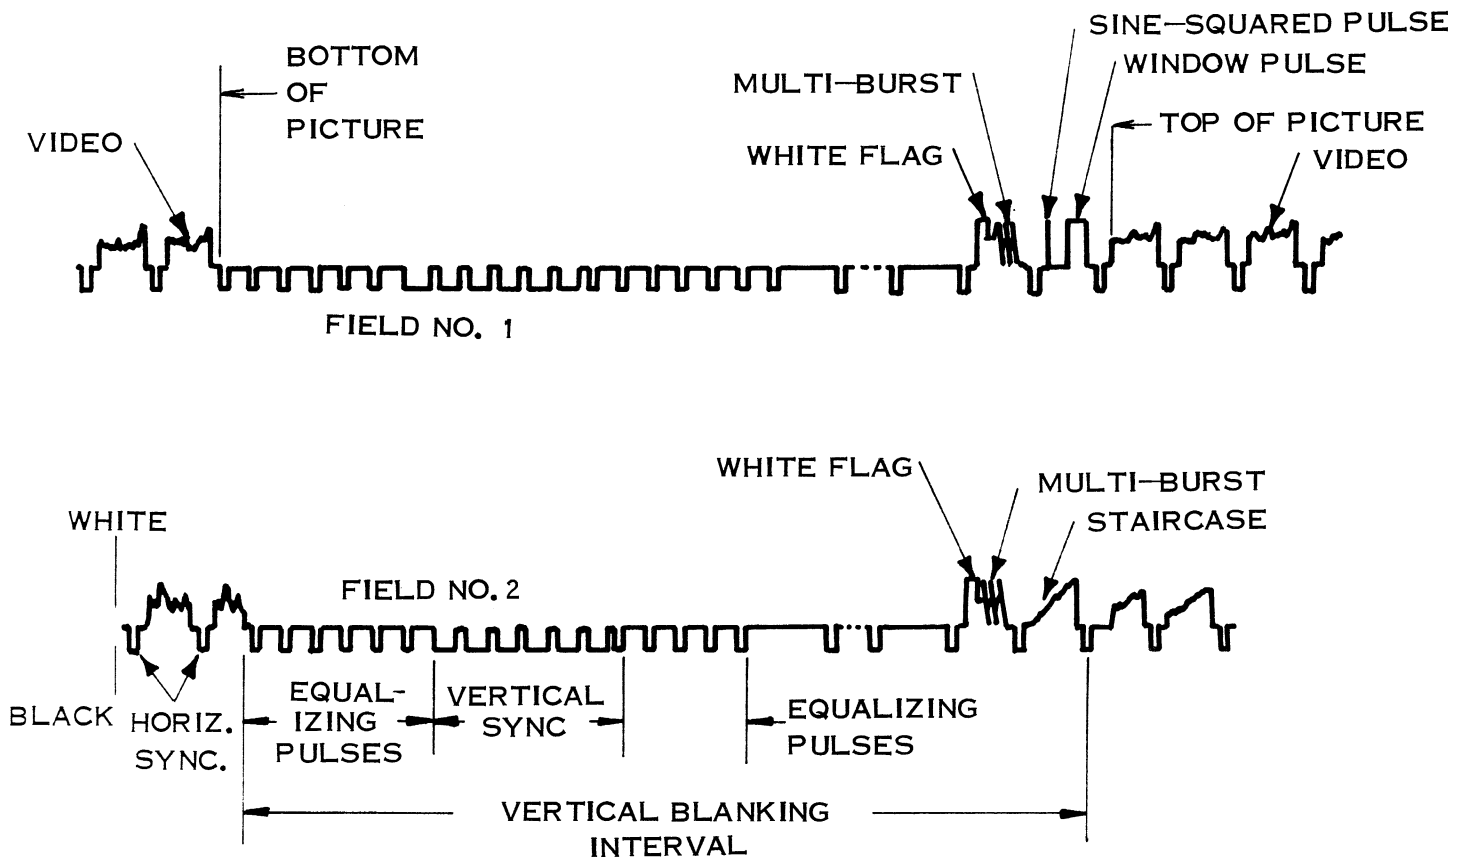

Figure 6-13. Vertical Blanking Interval Showing VITS Signal
6.16.3 The VITS is difficult to display on an oscilloscope because it occurs twice per frame (1/30 second) and only lasts for 2 line intervals (126 μ seconds, see Figure 6-13). It does not begin simultaneously with the vertical sync. pulse but occurs on lines 17 and 279. The trace brightness will be quite low because of the low display rate and because the x5 magnifier must be used to display the VITS 17 lines after occurrence of the vertical sync. pulse. Therefore, a scope hood or paper tube wrapped around the CRT bezel is recommended for viewing the screen.
- Adjust TRIGGER LEVEL control to sync. on equalizing pulses as shown in Figure 6-13 and observe VITS on right side of screen.